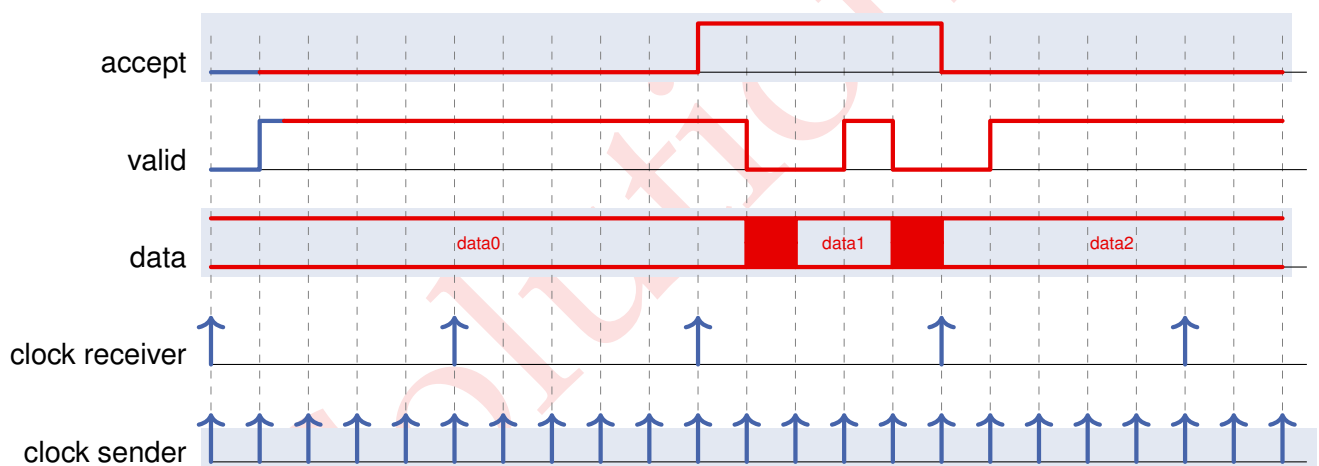

Figure 2.2: Signal progression diagram
2.1 In Figure 2.2 the sensitive clock edges of the sender and the receiver as well as the signal values for the first sender clock period are shown. In order to avoid violations of setup and hold times, the data is put onto the bus and one clock cycle later the valid signal is set to '1' by the sender. The receiver will also set the accept signal one clock cycle after having received the data. Fill in the progression of all signal lines until the end of the time scale.